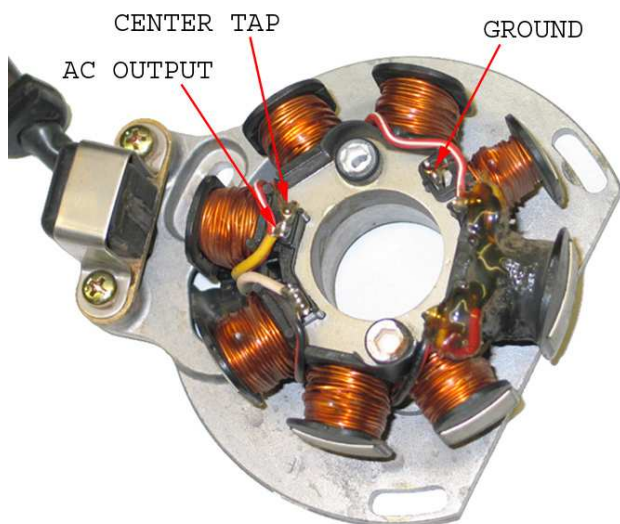
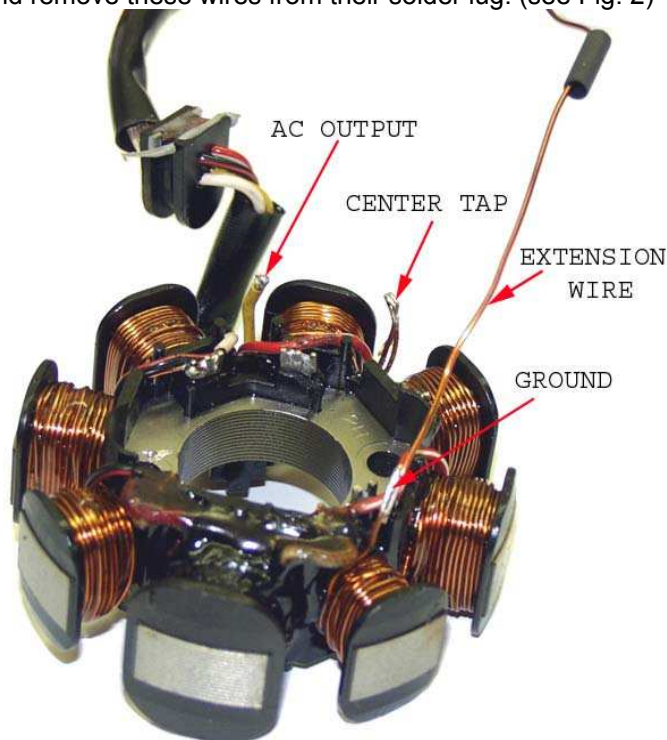
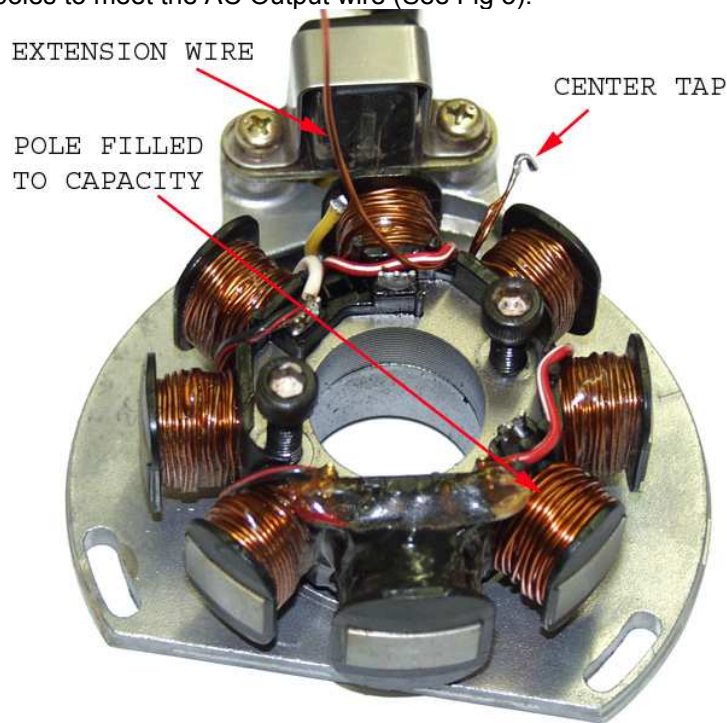

Figure 1.
Figure 2.
Figure 3.
- Locate the stator Ground wire (see Fig. 1). Heat solder and remove this wire from the ground lug. (see Fig. 2)
- Locate the stator AC Output wire (see Fig. 1). Heat solder and remove this wire from its solder lug. (see Fig. 2)
- Locate the stator Center Tap wires (see Fig. 1). Heat solder and remove these wires from their solder lug. (see Fig. 2)
Solder an extension wire to the ground lead (see Fig. 2). If 18 or 20-gage magnet wire (class H or Class C) is available, the pole can be wound to capacity, an additional 10% of power can be gained for lighting or other use (see Fig 3). **(Note: Be sure to use shrink tube to cover the exposed solder joint)** If magnet wire is not available, standard 140C capable insulated wire can be used. Do not use insulated wire to fill pole, only use insulated wire to complete extension to AC Output wire. The extension wire should be wrapped around the poles to meet the AC Output wire (See Fig 3).